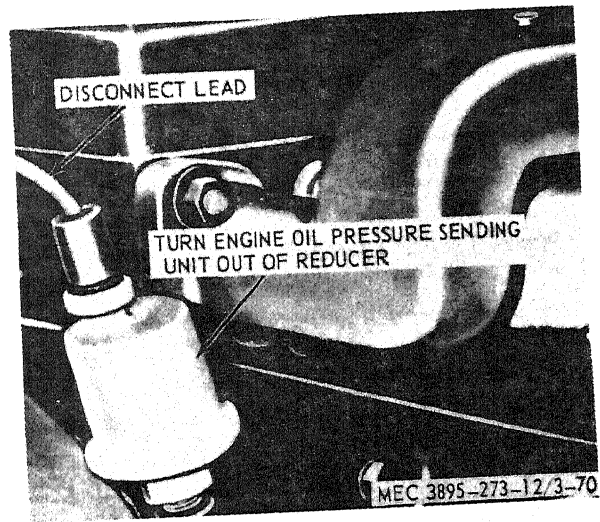

Figure 3-66. Engine oil pressure sending unit, removal and disassembly.
a. *Removal.* Remove the engine oil pressure sending unit as instructed on figure 3-66.
- (1) Clean the engine oil pressure sending unit with a cloth and approved cleaning solvent.
- (2) Inspect the unit for damage and for proper operation. Replace a defective unit.
c. *Installation.* Install the engine oil pressure sending unit in reverse of the instructions on figure 3-66.